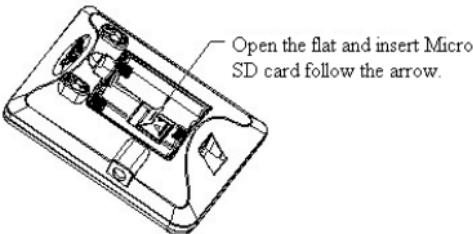

Fig 2-9 Insert SD card
- 2) Put SD card into the slot, then lock the MICRO SD card clamping plate. Fig 2-9 as below